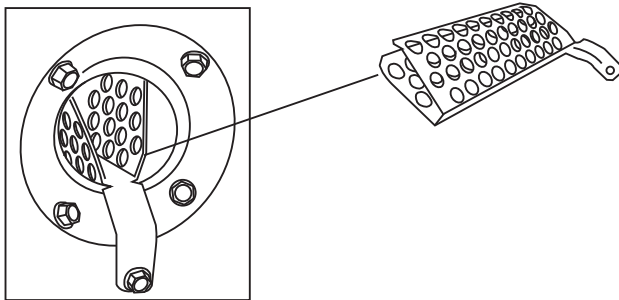

Fig. 20 - Nox Device Removal
1. Remove the screw underneath the heat exchanger inlet that secures the NO_x device in the heat exchanger. (See Fig. 20.)